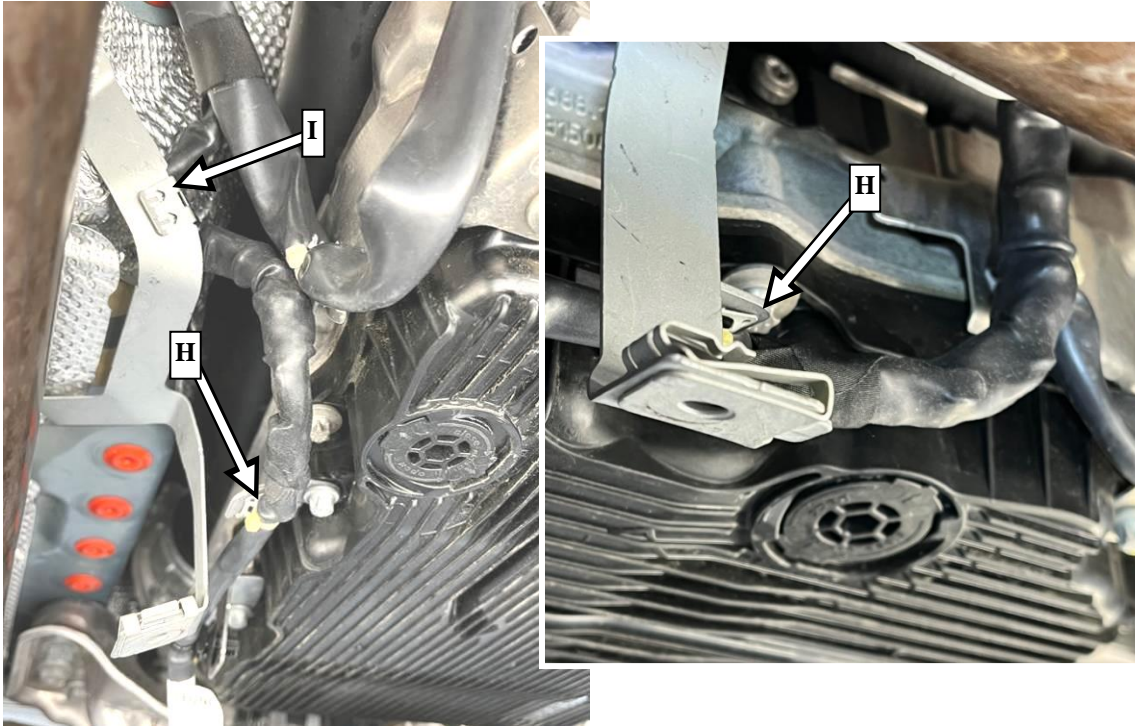

Figure 13
**i** Clip the retaining clamp onto the wiring harness bracket (**Figure 13, H**).
**i** Clip the retaining clamp onto the holder (**Figure 13, I**).